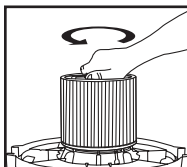

FIGURE 18
23. To remove the filter for cleaning, again hold the tank cover and turn the filter retainer counter-clockwise to loosen and remove. **FIGURE 18.**